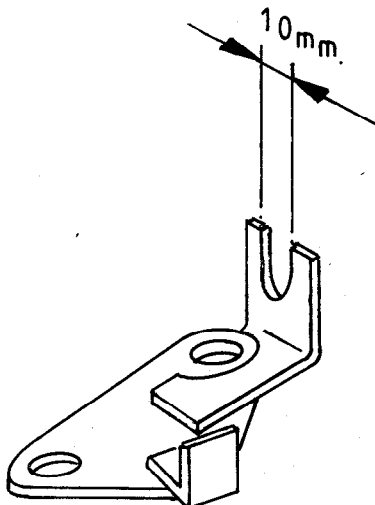

FIG 1 - BRAKE FEED LINE RETAINING BRACKET
- e. Cut a slot in the mounting bracket as shown in Fig 1.